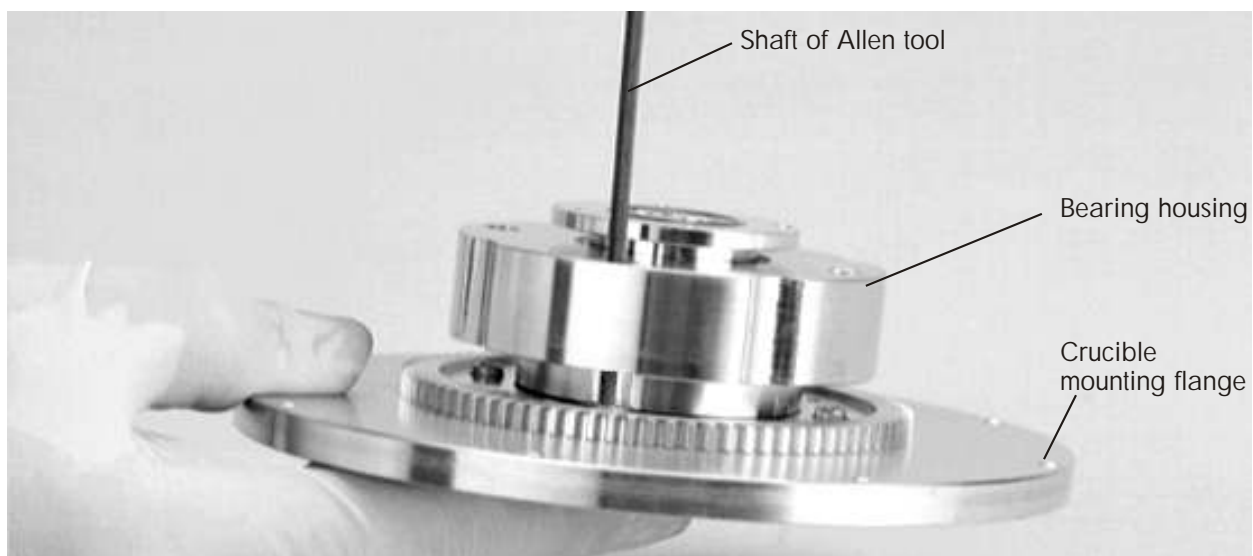

Figure 5-18. Allen driver inserted through hole in the bearing housing
- Step 4. Insert the Allen driver through these holes and tighten these screws, as shown in Figure 5-18.